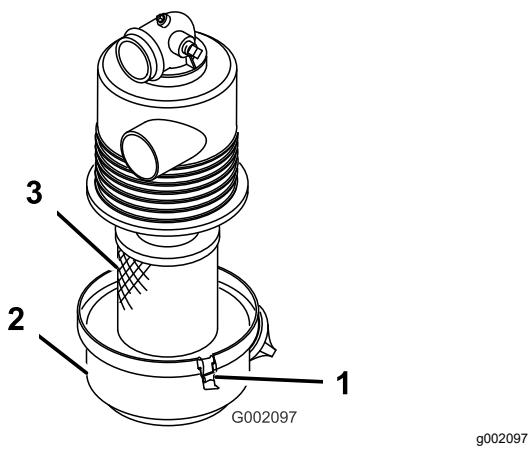

Figure 17
- Check the air cleaner body for damage, which could possibly cause an air leak. Ensure the cover is sealing around the air cleaner body (Figure 17).
- Release the latches securing the air-filter cover to the air-filter housing (Figure 17).
- Separate the air-filter cover from the air-filter housing, and clean the inside of the cover (Figure 17).
- Insert the air-filter element into air-filter housing (Figure 17).
- Align the air-cleaner cover with the air-cleaner housing (Figure 17).
- Secure the cover to the housing with the latches (Figure 17).